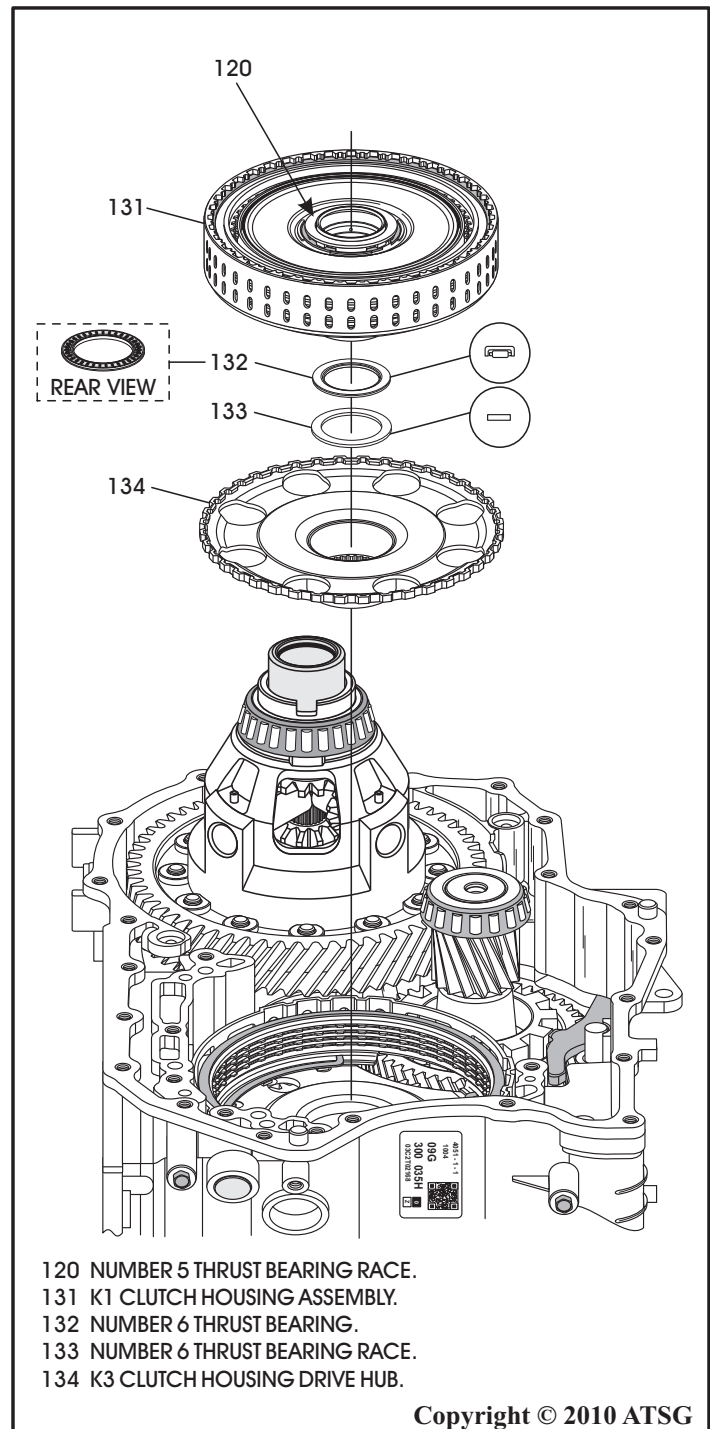

Figure 179
32. Install K3 clutch housing drive hub, as shown in Figure 179, and engage on splines of sun gear.
33. Install the number 6 thrust bearing race into the drive hub, as shown in Figure 179.
34. Install the number 6 thrust bearing with needles facing down, as shown in Figure 179.
35. Install completed K1 clutch housing, as shown in Figure 179.
36. Ensure that number 5 thrust bearing race is still in place on K1 clutch housing, as shown in Figure 179.